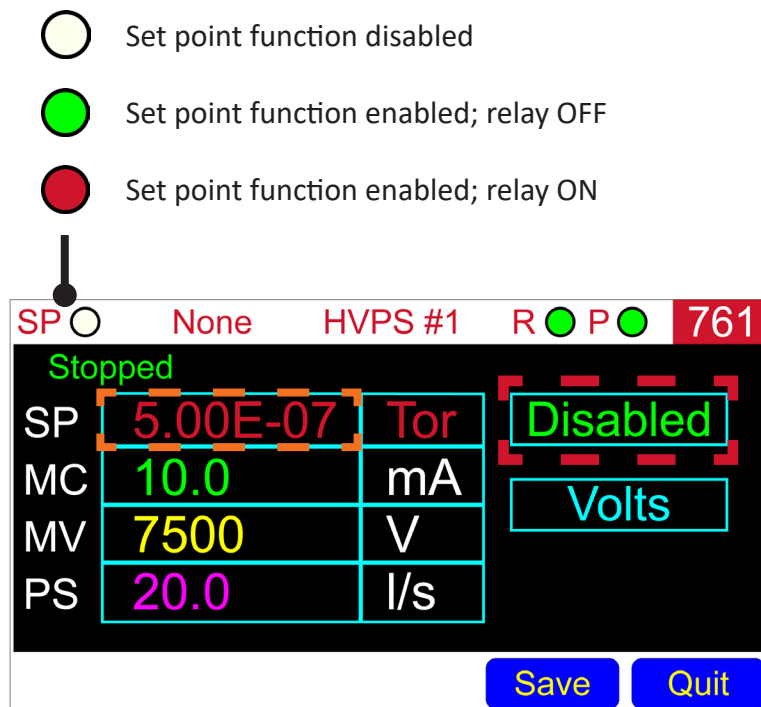

Figure 21. Set point parameter and toggle button
The set point function (and relay) is by default disabled — the SP indicator in the Status Bar will display . As shown in Figure 21, the set point parameters are enclosed (for illustrative purposes) in an orange and red rectangle. To view and modify the set point parameters remotely, see "Communication Protocols".
1. Tap **Config** to enter the Configuration display (See Figure 21)
2. Tap the HVPS green area on the Configuration screen to enter the channel configuration display (see Figure 21)
3. As shown in Figure 21, all the channel-specific parameters are available on screen
As shown in Figure 21, the set point indicator in the Status Bar will change to  when the set point function is disabled and  when the set point function is enabled after tapping **Save** .